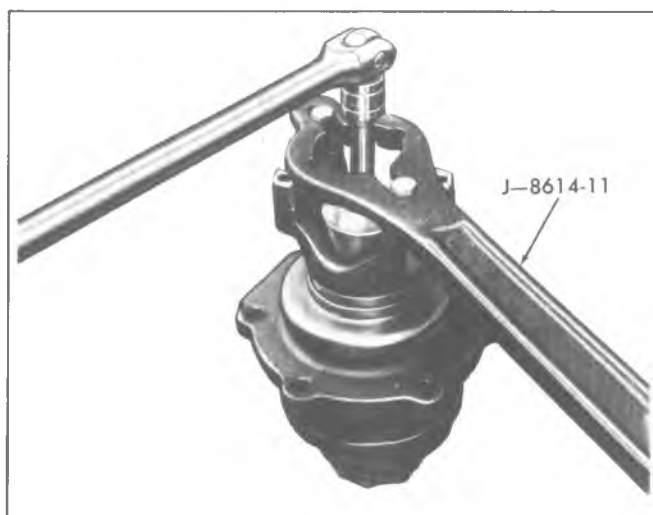

Fig. 8E--Removing Pinion Nut
2. Install Holder J-8614-11 on flange by using two bolts with flat washers, as shown in figure 8E. Position J-8614-11 on flange so that the four notches are toward the flange.
9. Clamp the pinion flange into a vise. Install J-8614-11 as in figure 8E. Tighten the nut to achieve proper bearing preload.